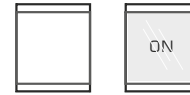

Figure 3: Button Orientation
4. Hold the button cap so that it is oriented as shown in Figure 3, with the “wings” at the top and lower sides.